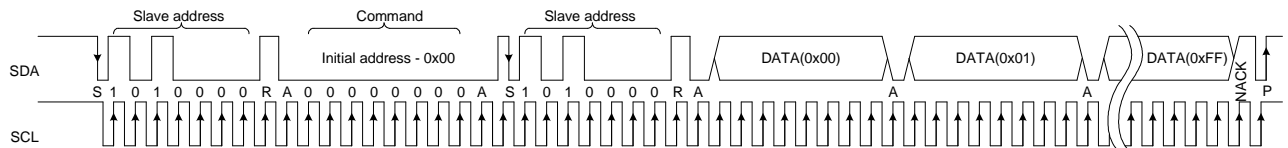

Figure 16 Whole EEPROM dump (SA = 0x50)
- Read the whole EEPROM (see Figure 16). For maximum speed performance Heimann Sensor recommends that the whole calibration data is stored into the client MCU RAM. However it is possible to read the calibration data from the EEPROM only when needed. This will result in increased time for temperature calculation i.e. low refresh rate.